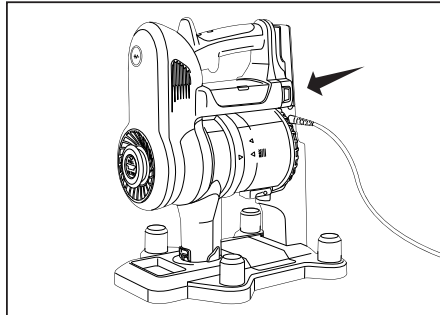

Fig. 2
1. Set the vacuum onto the Storage/Charging Station, ensuring the connection between points on vacuum with Storage/Charging Station (Fig. 2).